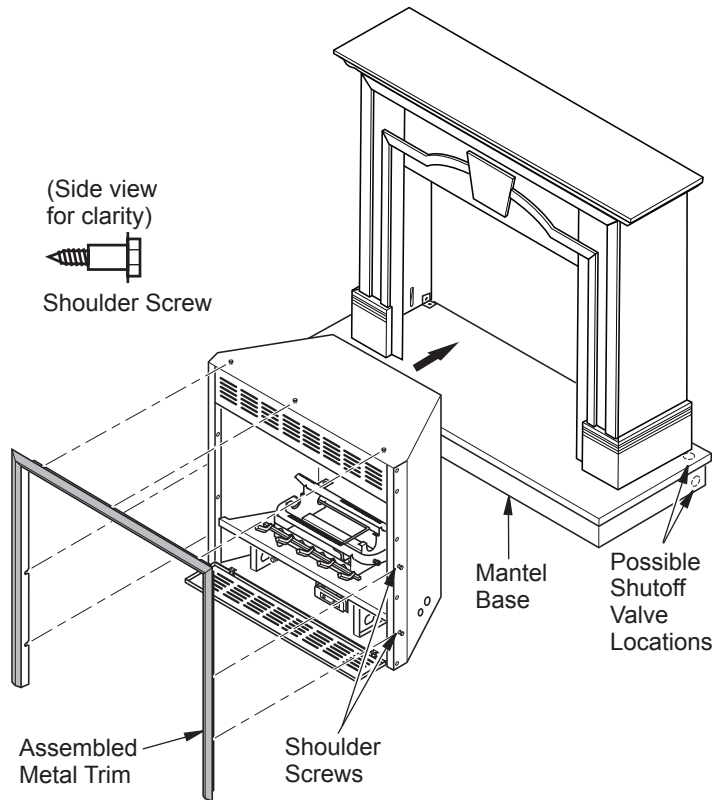

Figure 12 - Installing Fireplace without Flange
3. Position fireplace inside mantel (see Figure 12). Carefully position gas lines. **IMPORTANT:** Use caution when positioning fireplace on base. Base may scratch easily.